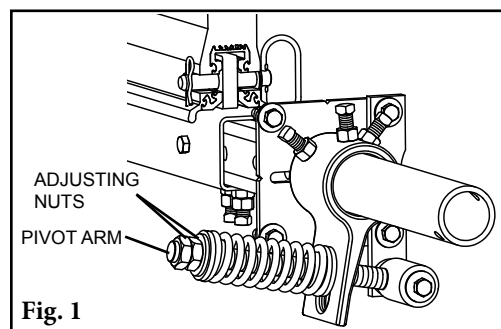

Fig. 1
1. Remove the tension. Loosen the adjusting nuts on both sides and turn them out until they are flush with ends of the pivot arms (Fig. 1) or release pressure from air control box. This releases the tension of the blade on the belt.